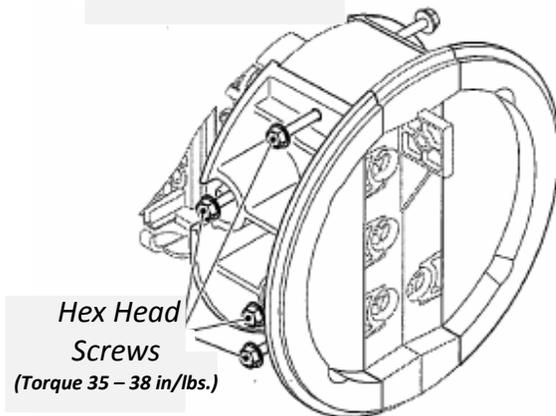

Figure 12 – Tightening Sequence for C-Halves
16.02 Apply lubricant to the gasket surfaces of the C-Half sections and tighten firmly the four (4) captive hex head bolts. Use a 216 style tool (or 3/8" socket) and tighten inside bolts first then tighten outside bolts. Refer to **Figure 12 – Tightening Sequence for C-Half Sections, and Photo 15 – Lubrication of C-Half Section Gaskets, and Photo 16 – Tightening of C-Halves**.